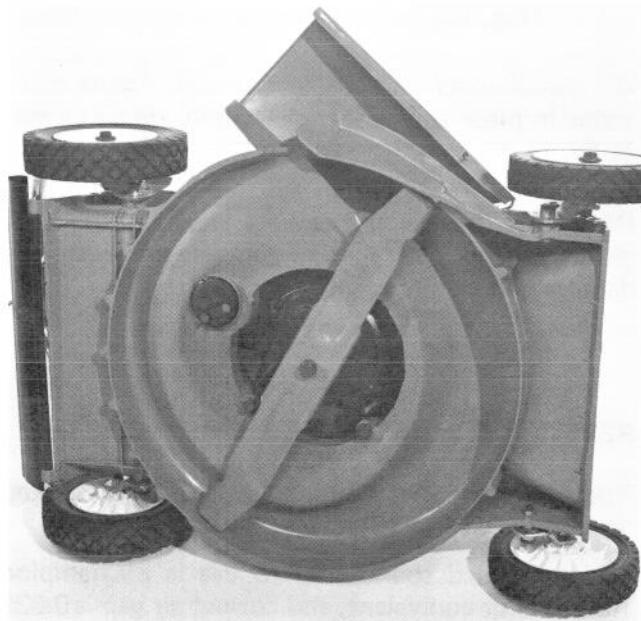

Figure 24
3. Tip mower on its left side (Fig. 24).